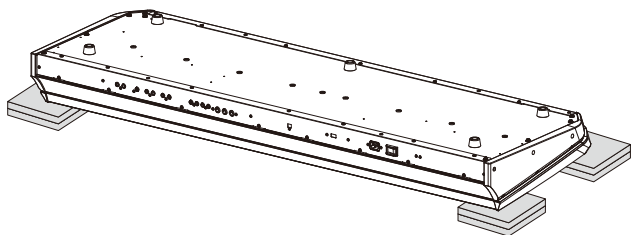

Fig. 1 (図 1)
- * If you want to turn the unit or control panel assembly upside down, prepare supporting materials and put the unit or control panel on them with the end portions of the unit or control panel placed on the supporting materials. (Fig. 1)
- ※ 本体またはコンパネ Ass'y を裏向きにして作業するときは、両端に枕木を敷いてください。(図 1)